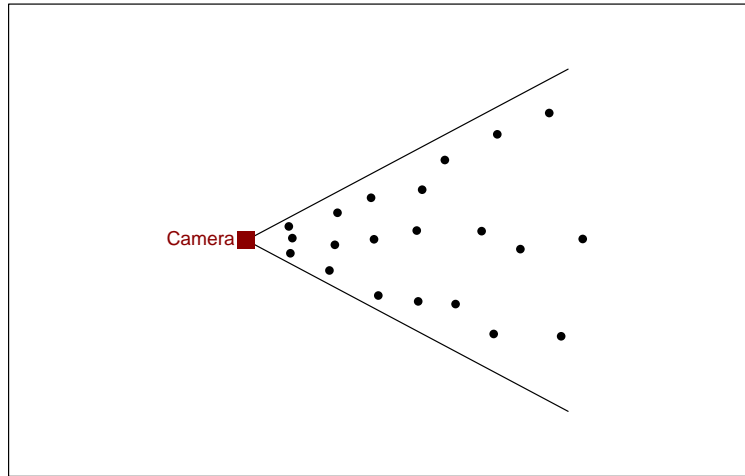

Figure 4: Diagram of an example set of pole locations for a deployment calibration. Note this can be set out without measuring anything.
3. Repeat this for further pole placements across the field of view and away from the camera with placements spaced about 1 m apart. Continue away from the camera to the maximum extent that any animals are likely to be captured, or if possible a bit beyond. As you reach greater distances, it may help to have a second person next to the camera to keep it triggering. Aim for 10-20 placements, perhaps more if visibility is very good Fig. 4 shows an example configuration of deployment calibration pole placements.